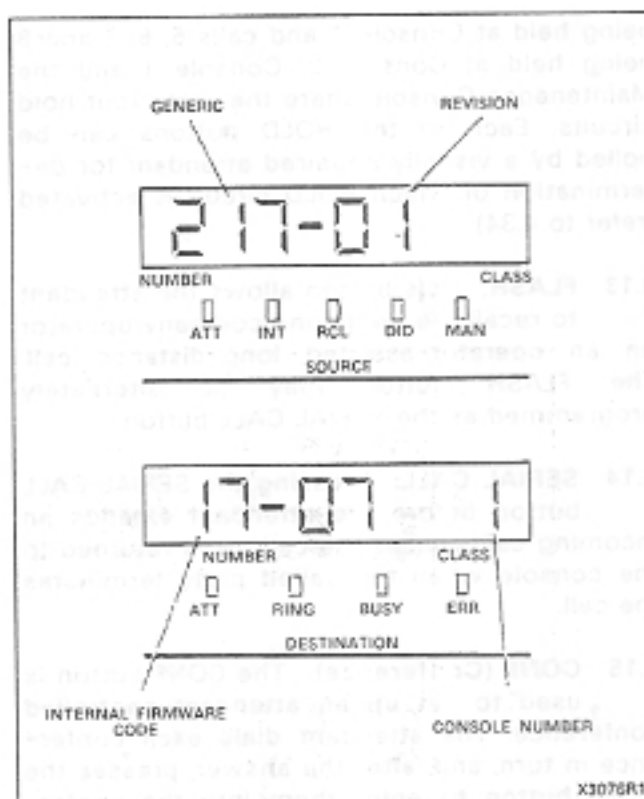

Fig. 4-2 Typical Identification Display
4.06 IDENT: Pressing the IDENT button when the console is idle causes the console to display the firmware generic number and its revision level in the SOURCE display, and the internal firmware code and the console number in the DESTINATION display (see Fig. 4-2):